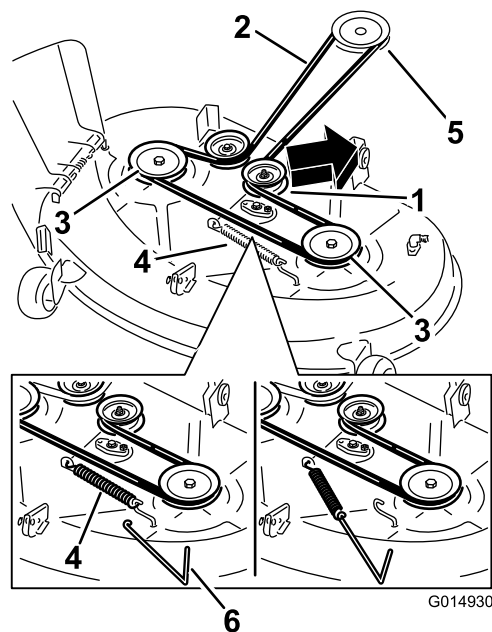
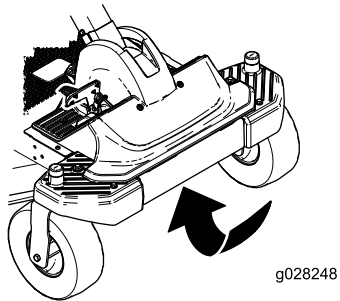

Figure 59
Figure 60
5. Using a spring-removal tool, (Toro Part No. 92-5771), remove the idler spring from the deck hook to remove tension on the idler pulley, and roll the belt off of the pulleys (Figure 59).
6. Route the new belt around the engine pulley and mower pulleys (Figure 59).
7. Using a spring-removal tool, install the idler spring over the deck hook, and place tension on the idler pulley and mower belt (Figure 59 and Figure 60).
Remove debris under the front of the machine with compressed air or by hand with a brush (Figure 60).